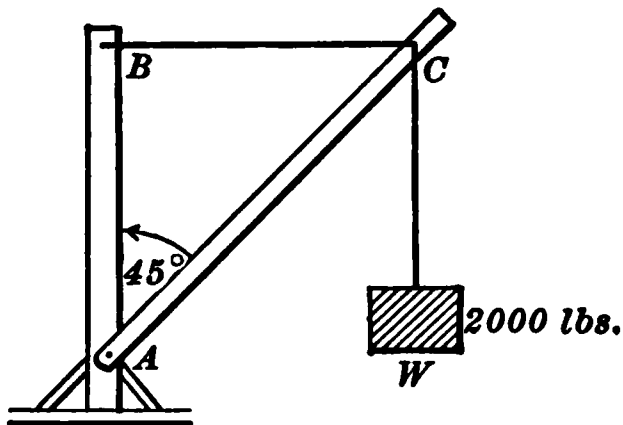

FIG. 127. — Diagram of simple crane.
6. Figure 127 shows a simple crane. Find the tension in the tie rope BC and the push of the brace AC , when the weight W is one ton, and the angle BAC is 45° .